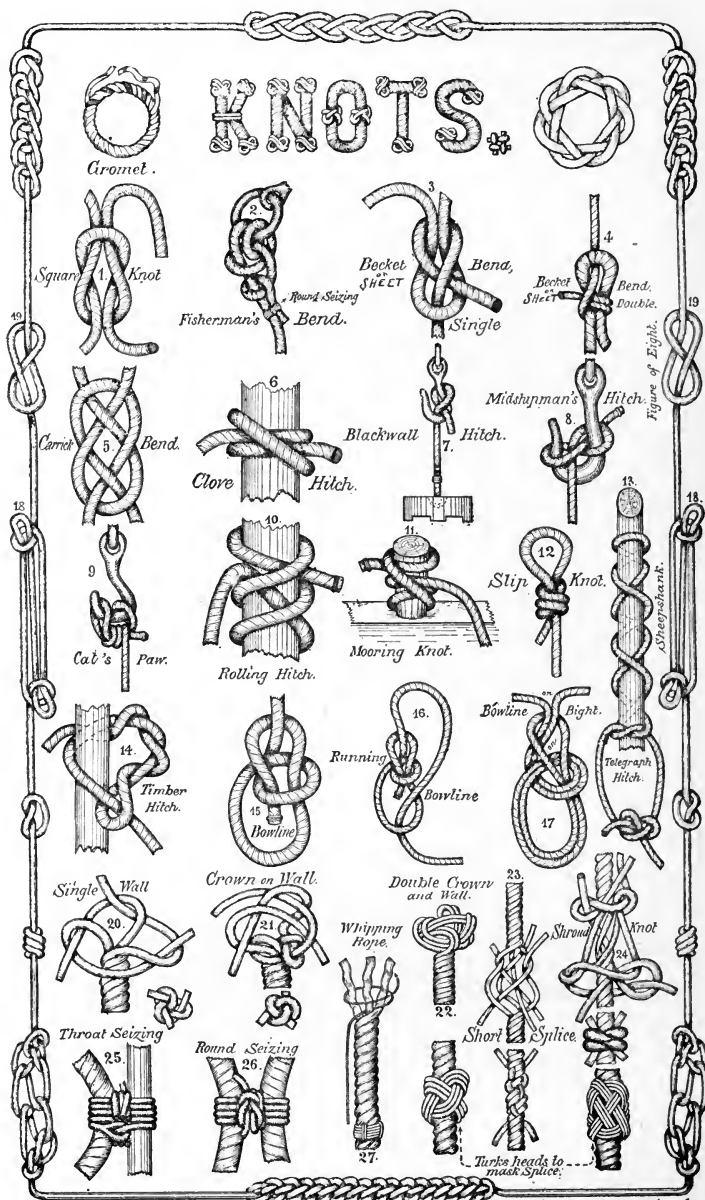

FIG. 45.
Running rigging are those which run through blocks or pulleys. (See Figs. 45 and 46.)
A. See Fig. 45. This figure illustrates the manner of making these knots. Their uses are as follows:
A. Unlay the strands for a convenient length; take an end in each hand, place them one within the other, and draw them close. Hold the end of one rope and the three strands from the other in the left hand; if the rope is large, stop them down to it with a rope yarn. Take the middle strand, which is free, pass it over the strand which is first next to it, then through under the second and out between the second and third from it, and then haul it taut. Pass each of the six strands in the same manner, first those of one end and then those of another. The same operation may be repeated with each strand, passing each over the third strand from it, under the fourth and through; or, as is more usual, after the ends have been stuck once untwist each strand, divide the yarns, pass one half as above described, and cut off the other half. This tapers the splice. (See Figs. 45 and 46.)
opposite strand from the other rope. Twist the ends of these two together, then do the same with two more strands. The two remaining strands are twisted together in the place where they were first crossed. Open the two last-named strands, divide in two, take an overhand knot with the opposite halves, and lead the ends over the next strand and through the second as the whole strands were passed for the short splice. Cut off the other two halves. Do the same with the others that are placed together, dividing, knotting, and passing them in the same manner. Before cutting off any of the half-strands, the rope should be well gotten upon a stretch. Sometimes the whole strands are knotted, then divided, and the half-strands passed as above described. This splice does not increase the diameter of the rope, and it is used for splicing a fall or other rope that runs through blocks. (See Fig. 45.)